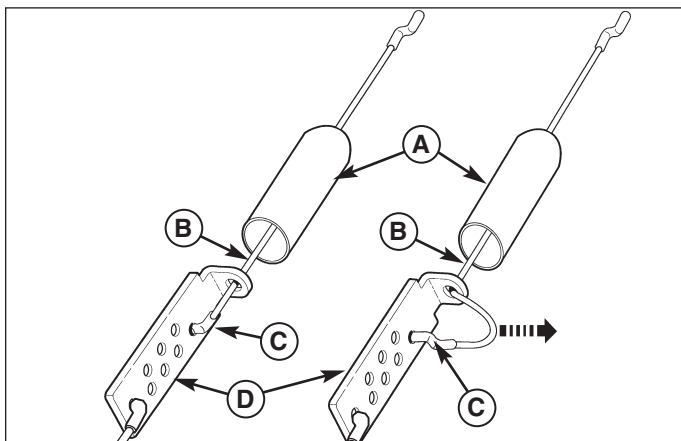

Figure 4. Traction Drive Cable Adjustment
2. To adjust tension on the cable slide the cable boot (A, Figure 4) off the cable adjustment bracket (D).
3. Move the "Z" hook (C) from the cable adjustment bracket (D) to a different adjustment hole. The cable should have slack. The cable should have no tension or load.